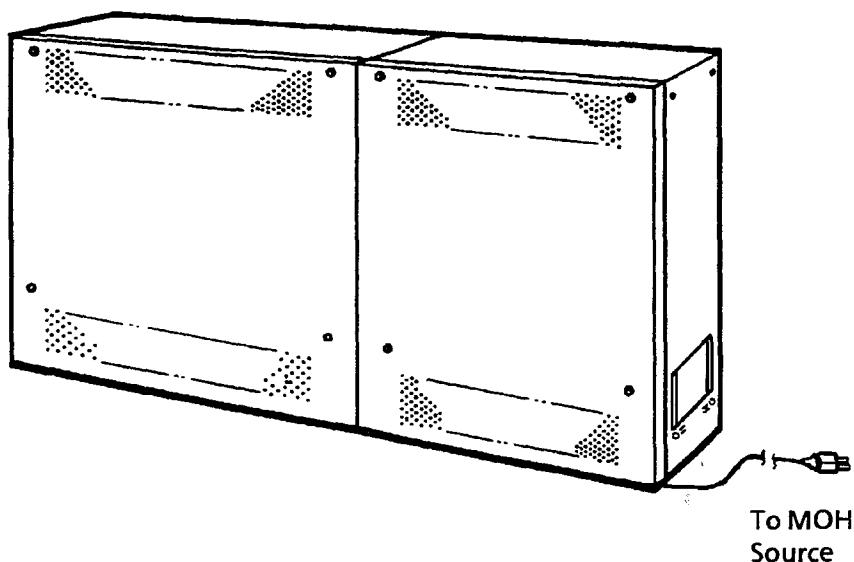

Figure 3-123 MOH Cable Route
8. Route the cable down and to the right side of the KSU to avoid interference with the insertion and the removal of KTUs. Exit the other end of the cable at the right rear side of the KSU. Refer to Figure 3-123 - MOH Cable Route.